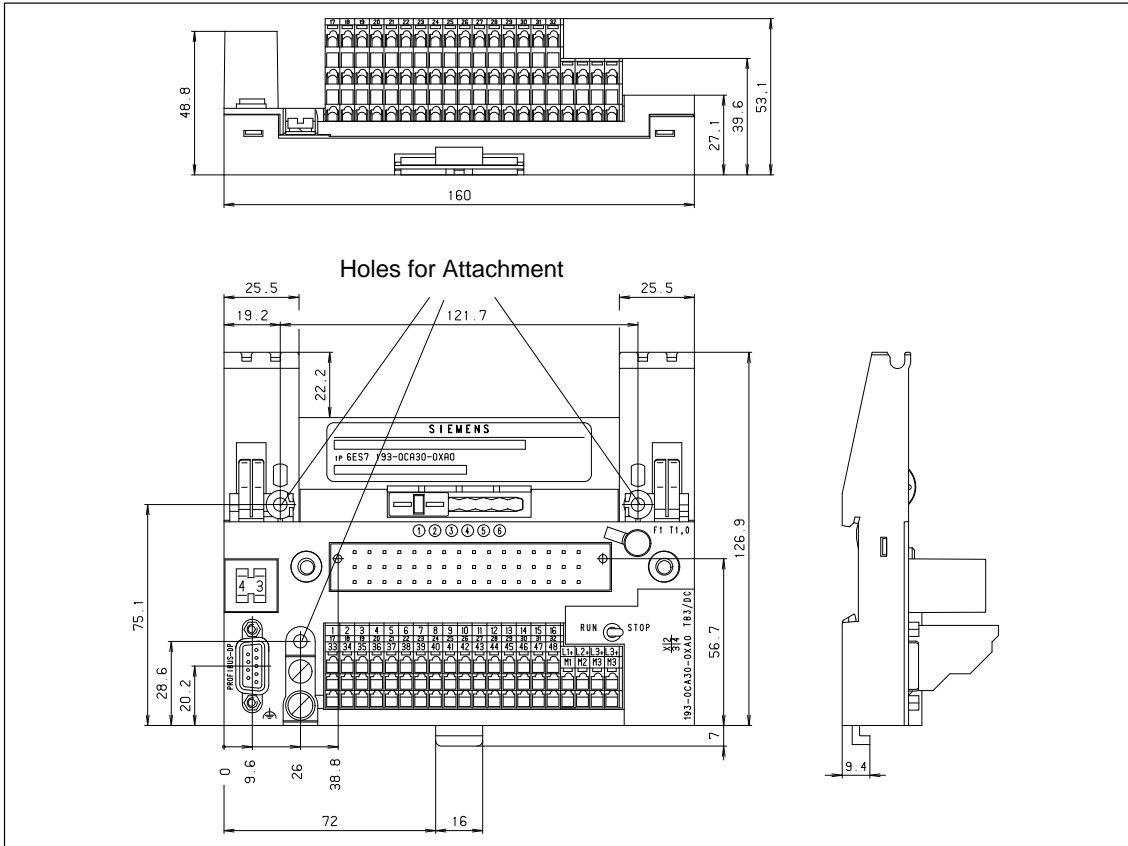

Figure 7-5 Dimensional Drawing: Terminal Block TB3/DC (Spring-Latch Terminal)
**Dimensional Drawing** Figure 7-5 is a dimensional drawing of the TB3/DC (spring-latch terminal).